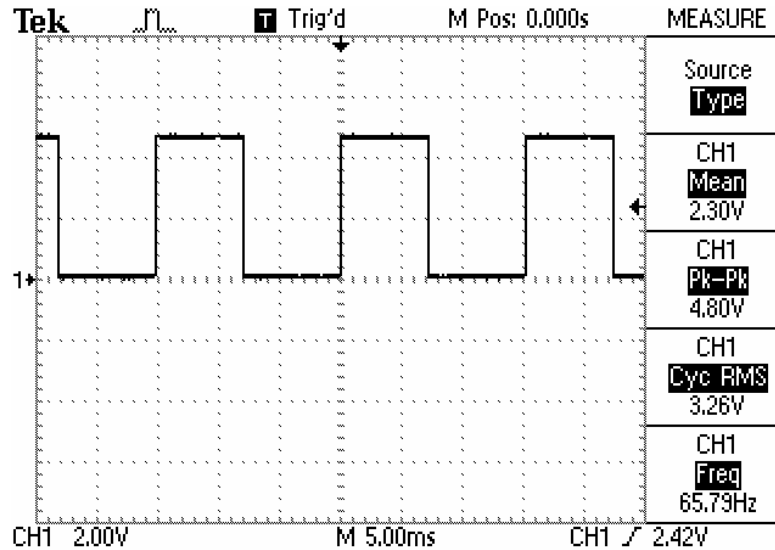

Figure 8: Oscilloscope Display of 60 Hz Digital Clock
7. [] Press the TDS210 AUTOSET button. The waveform that appears should look like Figure 8.